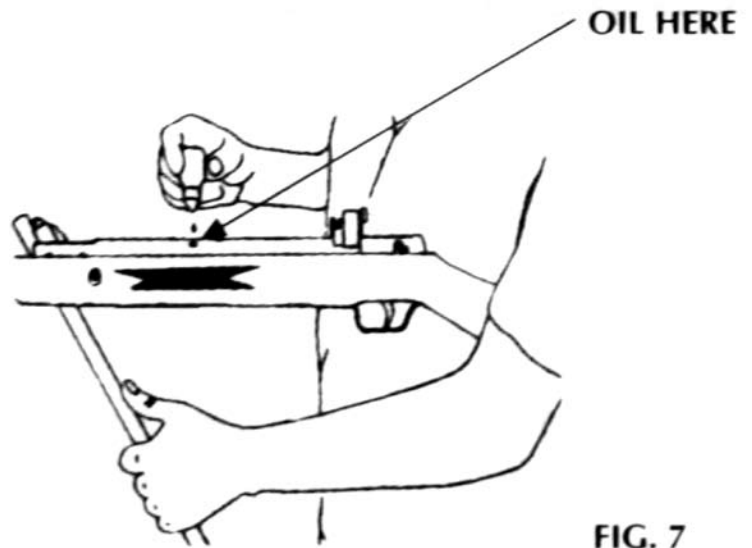

FIG. 7
NOTE: Cocking the air rifle automatically pushes the safety to the ON SAFE position. (fig. 2) Once the rifle is cocked, you will notice that a red dot appears in the oiling hole (fig. 7). This red dot indicates that the rifle has been cocked.
- Your air rifle will work best if you oil it every 200 shoots, where indicated (fig. 7) with two drops of a silicone-based chamber oil made specifically for spring air rifle use. **DO NOT** use any other type of oil and **DO NOT** over-oil, as this can damage your air rifle. To protect the outside finish of your air rifle, apply a few drops of oil and polish the entire surface with a flannel cloth.